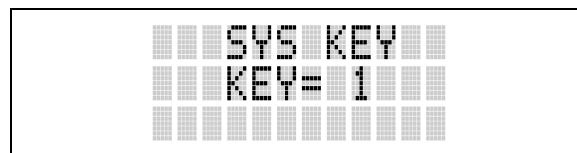
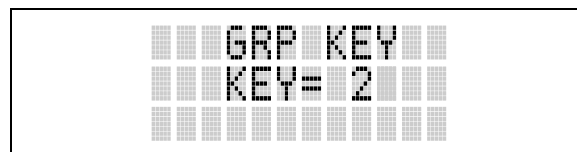

Figure 8-9: System Encryption Key Display
Figure 8-10: Group/Channel Encryption Key Display
3. Use the  or  button to toggle between displaying the system key (Figure 8-9) or the group/channel key (Figure 8-10).